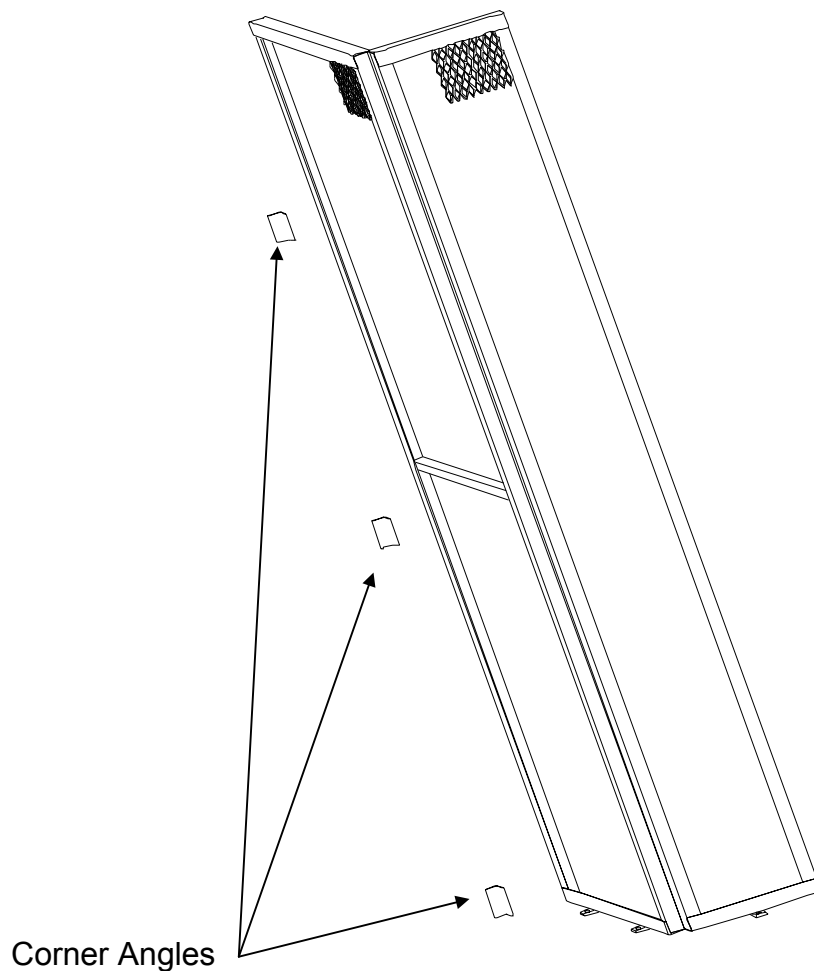

FIGURE 7
2. The next panel will connect to the first panel. In most cases, this will be a corner. Use (3) 3” long corner angles and TEK screws, to attach panels at corner. (See figure 7)